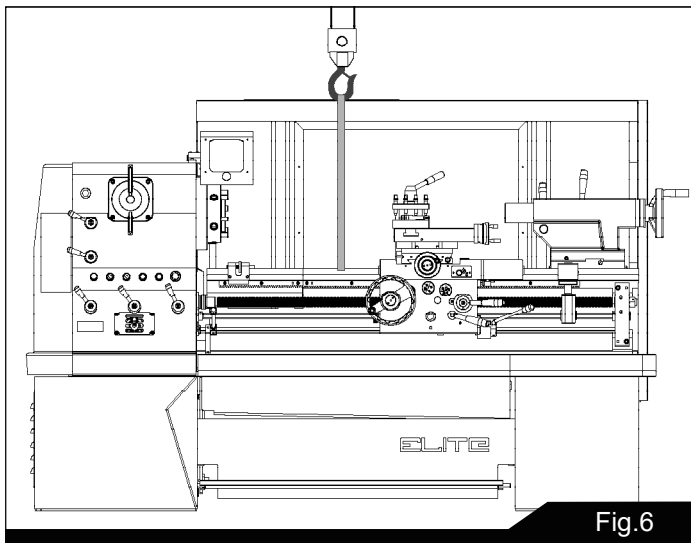

Fig.6
7. With properly rated lifting equipment, slowly raise lathe off shipping pallet. (see Figure 6). Do not lift lathe by the spindle.